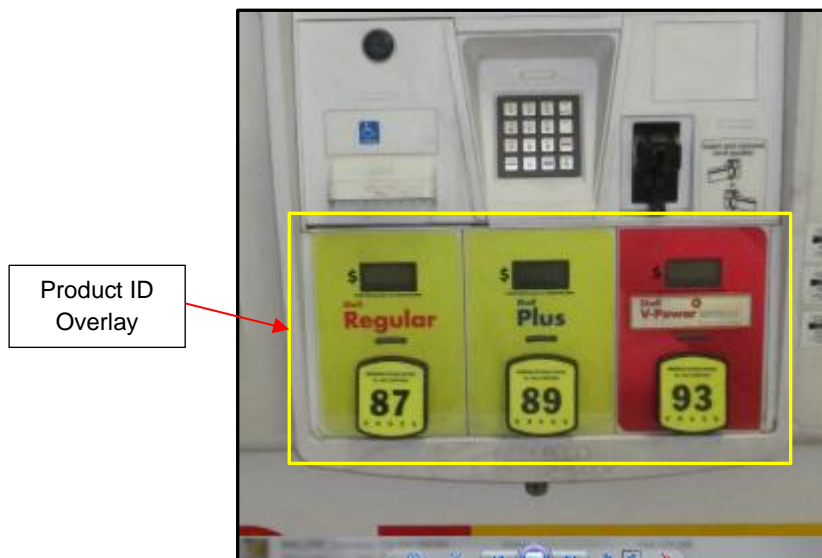

Fig 1.12 – Location of Product ID Overlay
- 14.** Remove the Product ID Overlay to expose screws. (Fig 1.12)